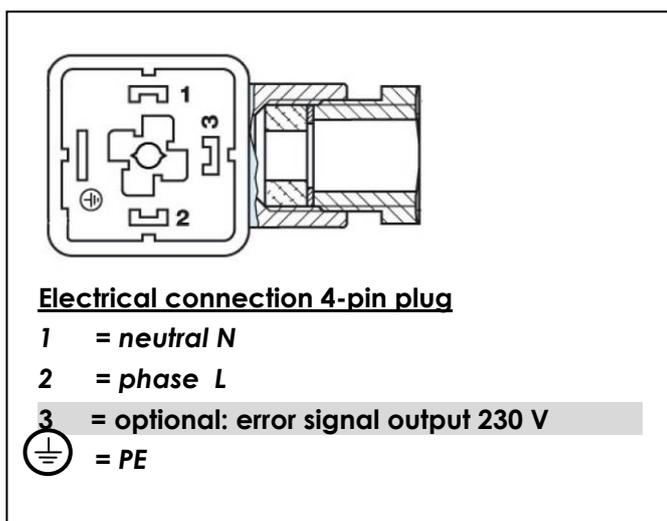

Fig 34: Electrical connection 4-pin plug
- ⇒ Route a flexible 3-wire electrical connection cable [max. 3 x 1.5 mm2] for power supply burner kit to the four-pin plug and connect the cable according to connecting scheme [Fig 34].
For modulating operation without MODBUS communication the modulation signal must now be connected to contact 3 of 4-pin plug [Fig. 34].